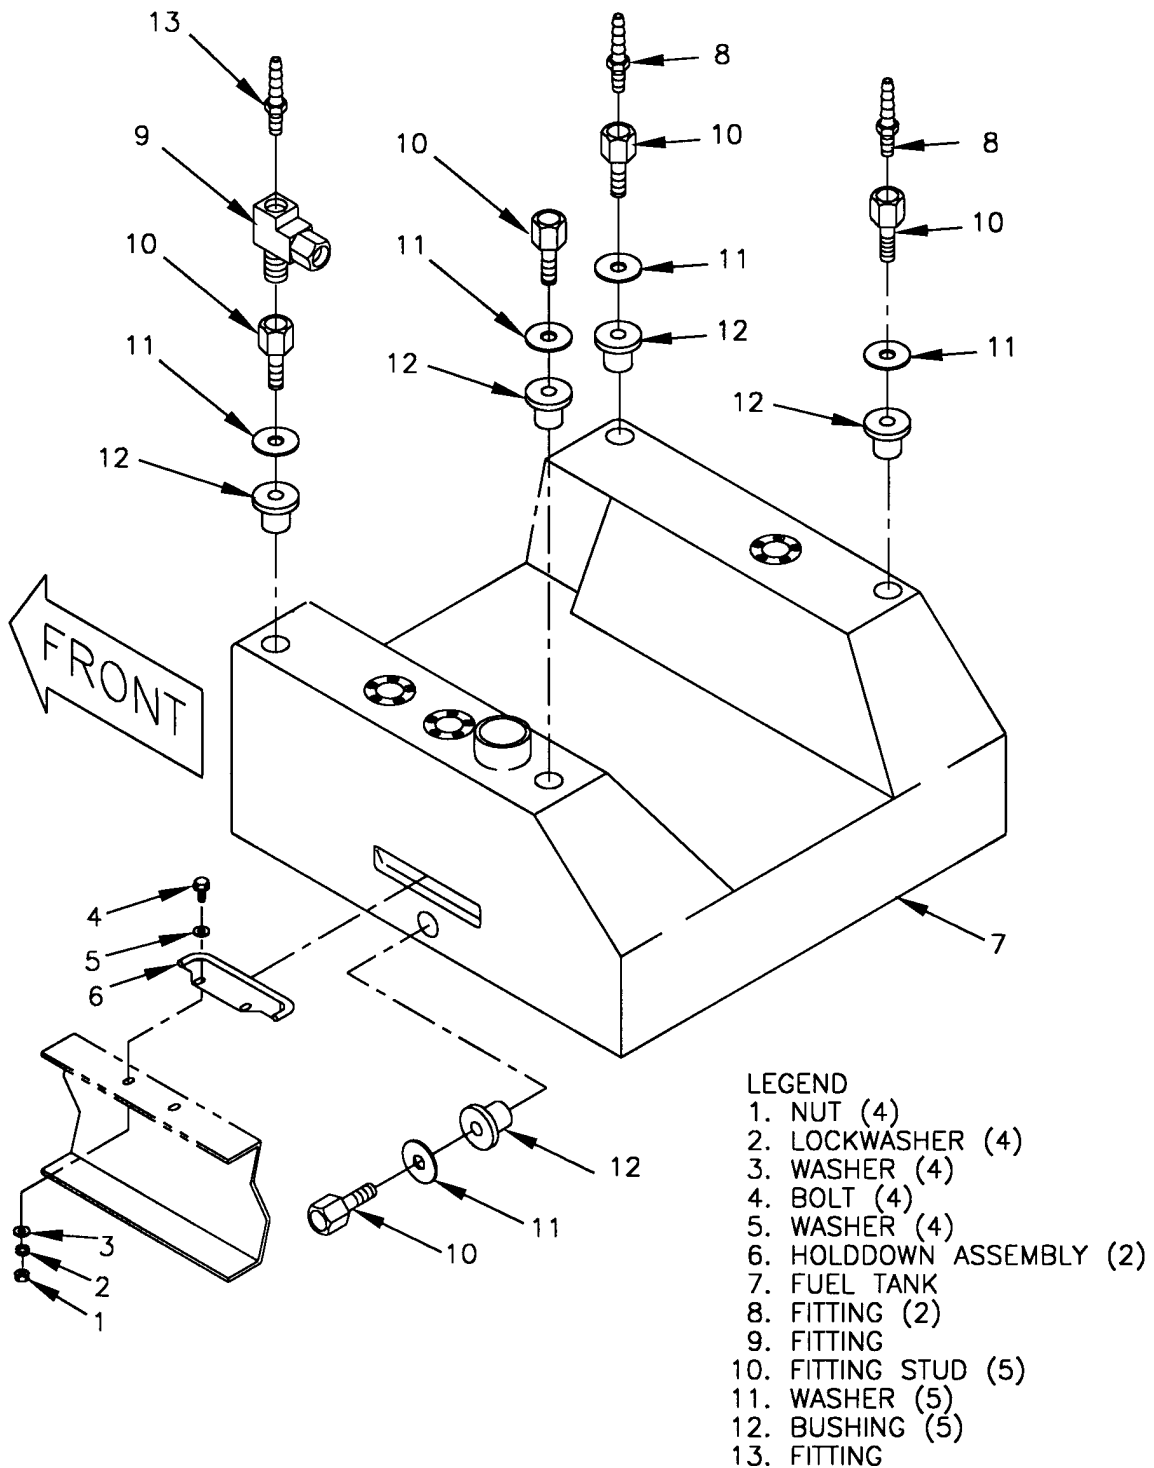

FIGURE 5-2. FUEL TANK
- (4) Remove engine and generator assembly, paragraph 5.4.2.
- (5) Remove fuel drain valve, paragraph 4.11.4.
- (6) Remove nuts (1, Figure 5-2), lockwashers (2), washers (3), bolts (4), washers (5), and holddown assemblies (6) securing fuel tank (7) to skid base.
- (7) Lift fuel tank (7) from skid base.
- (8) Remove fuel level sender, paragraph 4.11.5.
- (9) Remove fuel pickup, paragraph 4.11.6.
- (10) Remove fittings (8) from fitting studs (10) on right side of fuel tank (7).
- (11) Remove fitting (13) from tee (9).
- (12) Remove tee (9) from fitting stud (10) on left side of tank (7).
- (13) Remove fittings studs (10), washers (11), and bushings (12) from fuel tank (7).
- (14) Cover all openings in fuel tank (7).
- (1) Shut down generator set, paragraph 2.11.2.
- (2) Remove fuel tank, step 5.7.1a .
- (3) Inspect fuel tank (7, Figure 5-2) for leaks, cracks, missing hardware, and other damage.
- (4) If damage is found, replace fuel tank (7).
- (5) Install fuel tank, step 5.7.1c.
- (1) Uncover openings in fuel tank (7, Figure 5-2).
- (2) Apply sealing compound (Item 22, Appendix E) to threads of fitting studs (10). Install bushings (12), washers (11), and fitting studs on fuel tank (7). Torque fitting studs to 40 inch-pounds.
- (3) Apply sealing compound (Item 22, Appendix E) to threads of tee (9). Install tee on fitting stud (10) on left side of fuel tank (7).
- (4) Apply sealing compound (Item 22, Appendix E) to threads of fittings (8). Install fittings on fitting studs (10) on right side of fuel tank (7).
- (5) Apply sealing compound (Item 22, Appendix E) to threads of fitting (13). Install fitting on tee (9) on left side of fuel tank (7).
- (6) Install fuel pickup, paragraph 4.11.6.
- (7) Install fuel level sender, paragraph 4.11.5.
- (8) Position fuel tank (7) in skid base.
- (9) Secure fuel tank (7) to skid base with holddown assemblies (6), washers (5), bolts (4), washers (3), lockwashers (2), and bolts (1).
- (10) Install fuel drain valve, paragraph 4.11.4.
- (11) Install engine and generator assembly, paragraph 5.4.2.